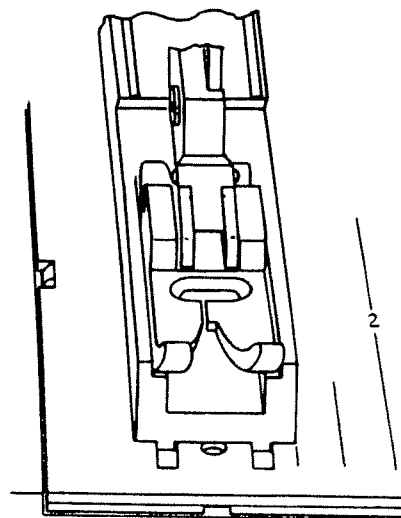

Fig. 4
- Insert sewing foot gauge No. 63-114690-39 from behind under the zigzag foot and into the cutouts of the needle plate at the same time (fig. 4).